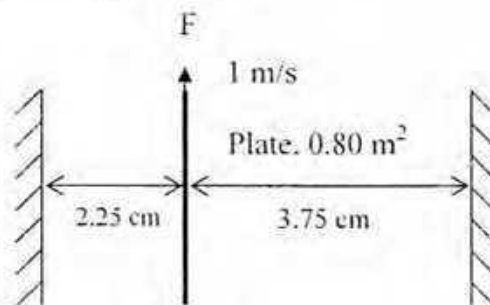

Figure 1
- b. A space of 6.0 cm between two large plane surfaces is filled with glycerine as shown in Figure 1. Determine the force (F) required to drag vertically a very thin plate 0.90 m2 in area between the plane surfaces at a constant speed of 1 m/s, if the plate is at a distance of 2.25 cm from one of the surfaces. Take dynamic viscosity 0.05 N-s/m2 and weight of the plate 8 N. 9